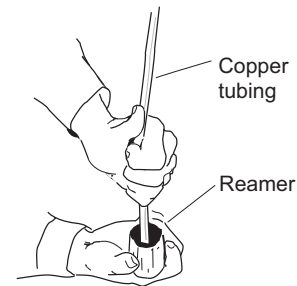

Fig. 1- 20
- (4) Make a flare at the end of the copper tube with a flare tool. (Fig. 1- 21)